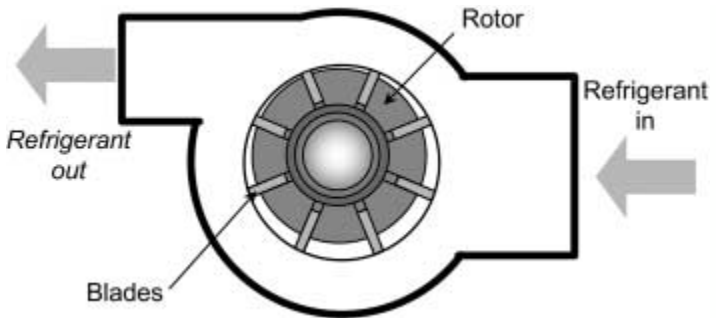

FIGURE 8.8 Rotary compressor.
*Rotary compressors* are typically used in low temperature applications. In this kind of compressor, a series of blades moves in and out of slots as the rotor turns. The gap between the blade and the slot is large where the refrigerant enters the compressor. The gaps then become successively smaller as the rotor turns, as shown in Figure 8.8. Rotary compressors can be started with low-starting-torque motors, are relatively lightweight, and have good part-load characteristics down to about 20% of rated capacity.